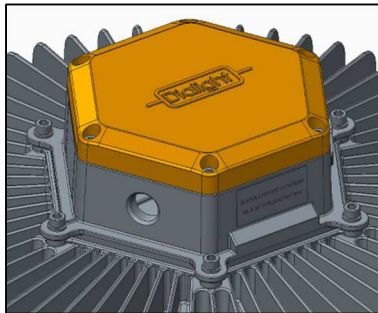

Fig.7
2. Remove the access from light fixture [Fig.7]
9. Once tested and approved _ replace access cover [Fig.7] suggested torque = 3 ft.lb. [0.13 Nm]